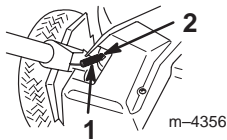

Figure 4
6. Install the traction cable spring onto the transmission bracket if it is not already connected (Fig. 4).